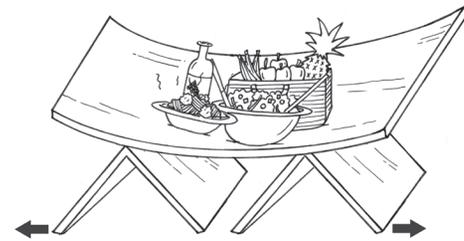

Figure 12
6. Now, think of ways to make the table stronger so that it can support bigger loads. The table in Figure 12 is not strong enough to support its load without bending.